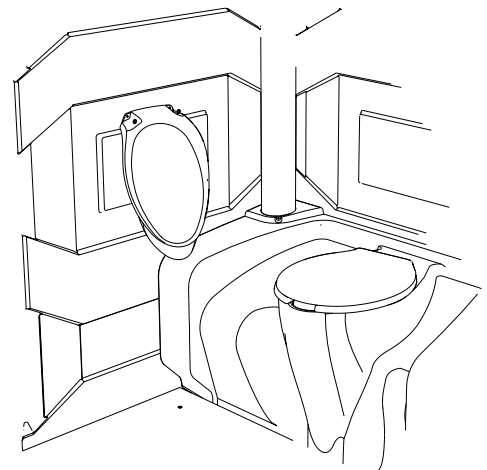

Figure 8
**WALL.** Refer to Figure 8. Insert the drain spigot of the urinal into the hole on the left top surface of the holding tank. Position the urinal so that it is level. There are two holes at the top of the urinal. Drill 13/64" holes through those holes and through the side wall panel. From outside of the restroom one person will rivet through the drilled holes with PC-000100 rivets, while another person inside the restroom places PC-000106 back-up washers on the rivet stems.